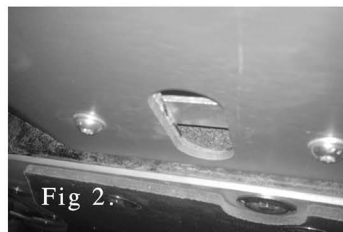

Fig 2.
5. Now you can install your rock sliders. Before you mount the rock slider place the #700-07 bar clamp across the oval hole on the steel plate welded to the frame just behind the front tire as shown in fig. 2. You can use the access hole in the skid plate to align the bar clamp with the mounting holes on the rock slider as you feed in the 8 x 25mm button head bolts.